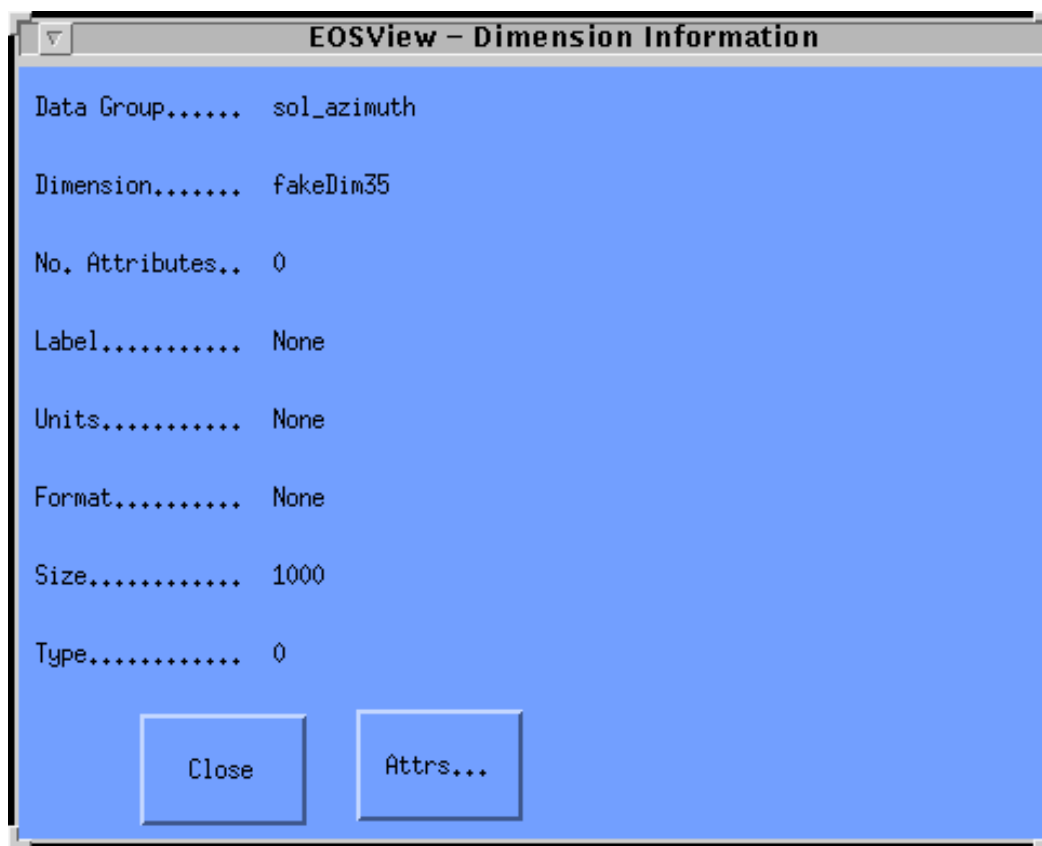

Figure 4.12.5-5. Dimension Information Pop-up
EOSView can only display 2-dimensional (2-D) datasets. If a dataset contains more than 2-D, a 2-D slice of the dataset needs to be selected. This is accomplished by selecting ONLY 2 dimension boxes to the left of the dimension name. The other dimensions can have an index entered in the text box. Additional information for each dimension can be displayed in a separate window by pressing the button next to the dimension the information is desired. Clicking on the **Info...** button brings up a Dimension Information pop-up shown below in Figure 4.12.5-5.
Selecting the **Table** button from the Multi-Dimension SDS window brings up a table window as shown in Figure 4.12.5-6. The table window displays a 1 or 2 dimensional list of the data as either a Scientific Data Group or Vdata. The window is sizable and contains horizontal and vertical scrollbars.
The **File** pulldown menu contains the following items, as shown in Figure 4.12.5-6:
- **Make Image** - This creates a pseudo-color image of the selected table. Selecting this option causes the Min/Max Values Pop-up to appear (Figure 4.12.5-14)